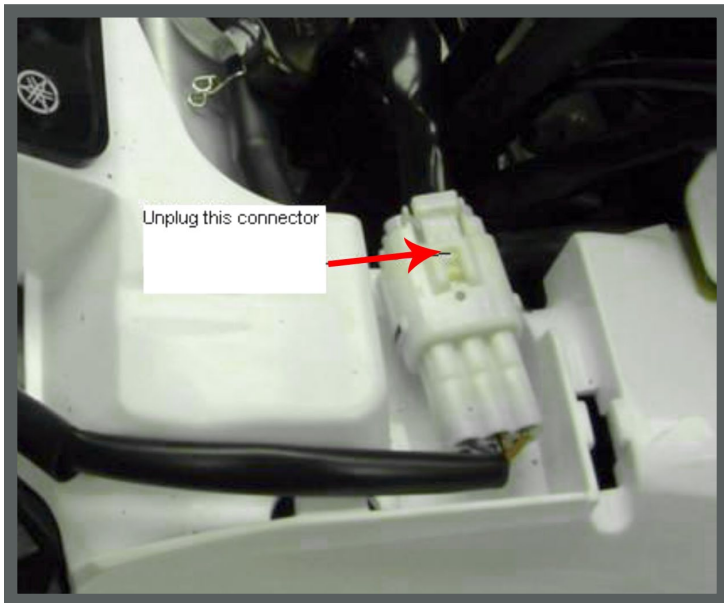

Figure 3
4. Unplug the connector shown in (Fig 3)